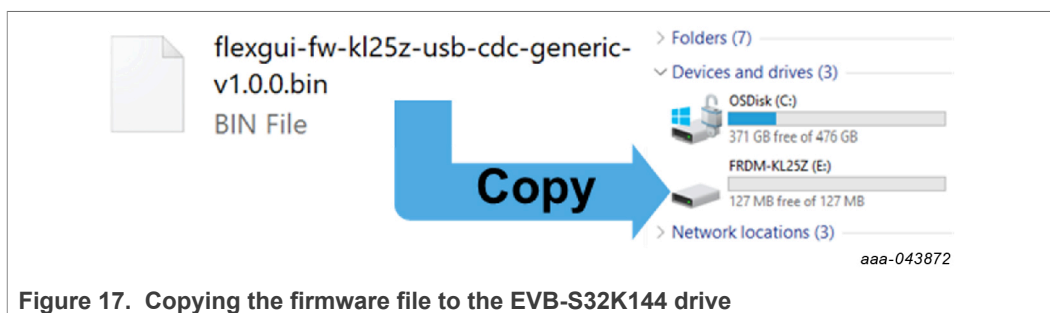

Figure 17. Copying the firmware file to the EVB-S32K144 drive
2. Wait until the PC has launched new drive 'FRDM-KL25Z' (Figure 17)
3. Copy the firmware file to that drive (Figure 17)